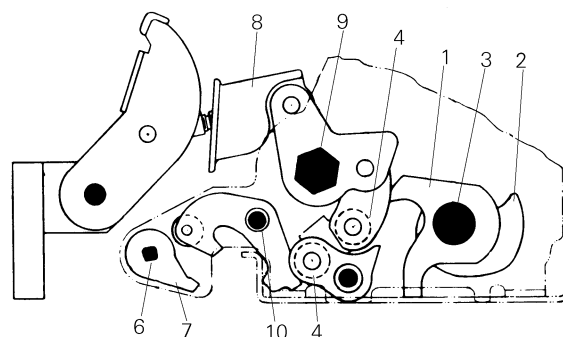
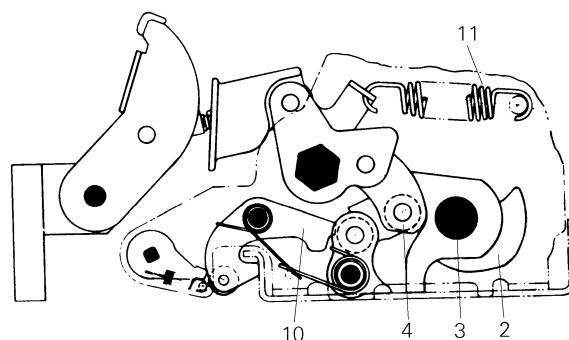

Figure 5-9. Breaker mechanism in the TRIPPED position.
Figure 5-10. Breaker mechanism in the RESET position.
**Tripped Position** – The mechanism goes from the CLOSED position to the TRIPPED position, illustrated in Figure 5-9, when the trip shaft (6) is rotated by either the manual trip button or one of the other trip devices. The trip latch (7) is assembled to the trip shaft. When the trip shaft rotates, the trip latch disengages from the secondary latch roller (5). The secondary latch pivots, resulting in the collapse of the toggle linkage. This collapse, along with the opening spring (11), shown in Figure 5-10, causes the breaker contacts to open.
**Reset Position** – The closing cam (2), assembled to the cam shaft (3), is rotated by the charging motor, manual charging handle, or maintenance handle. The cam engages the cam roller and partially extends the toggle linkage. This allows the secondary latch (10) to pivot against the front frame, as illustrated in Figure 5-10, leaving a gap between the trip latch (7) and secondary latch roller (5). The secondary latch is now in a position to engage both the trip latch and cam roller (4).